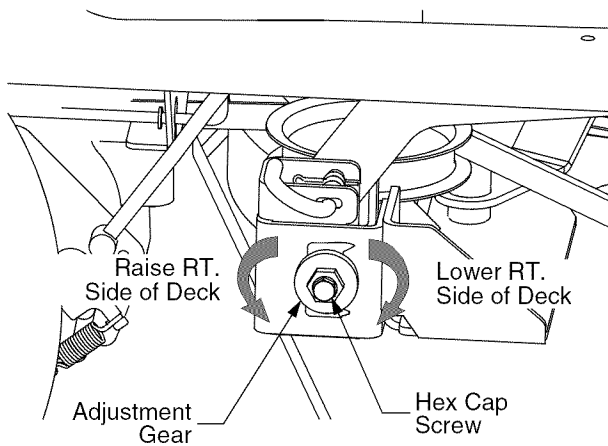

Figure 37
- Loosen, but do not remove, the hex cap screw on the right deck hanger bracket. Refer to Figure 37.
- Level the deck by using a wrench to turn the adjustment gear (found immediately behind the hex cap screw just loosened) clockwise to lower the right side of the deck, or counterclockwise to raise the right side of the deck. See Figure 37.